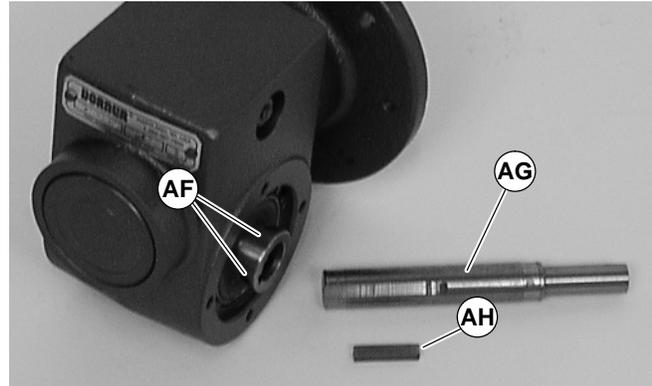

Figure 18
- Insert the new shaft with adhesive (AG of Figure 18) and key (AH) into new gear reducer. Tighten set screws (AF) to 35 in-lb (4 Nm).